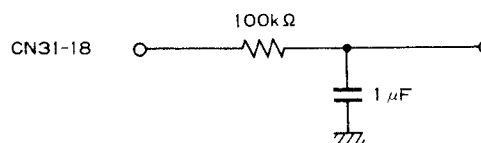

Fig.7-8 LPF
1. Connect an oscilloscope (via LPF) to pin 18 (FOCS coil) of connector CN31 on the PREB assembly and observe the voltage flowing into the focus coil (See Fig.7-8).